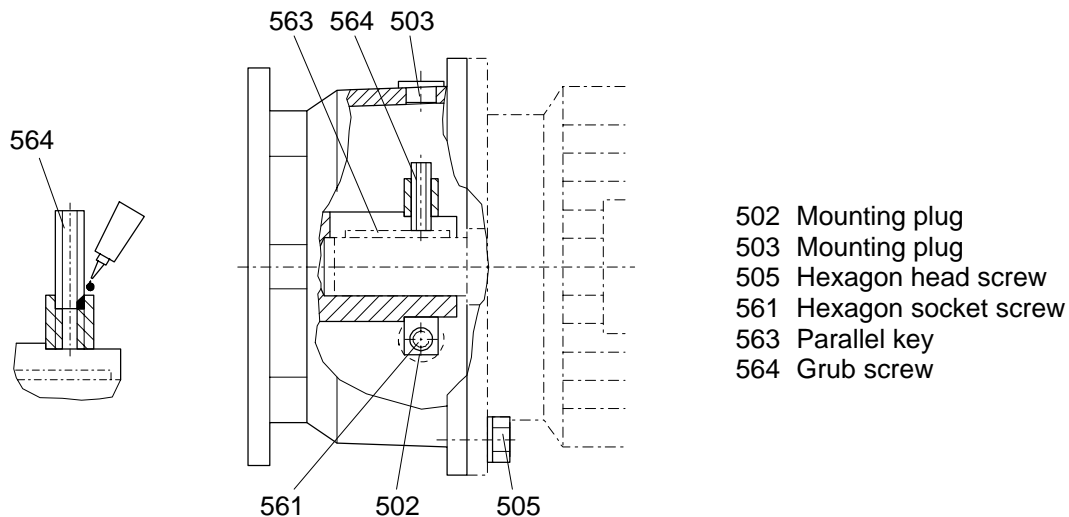

Figure 6.9.2
- Remove mounting plugs pos.502 and pos.503.
- To fasten the clamping ring align input shaft and clamping ring of the gear unit to the mounting bores pos.502 and pos.503 by rotating.
- Moisten grub screw pos.564 by adhesive compound (medium strength, e.g. Loctite 243) see Fig. 6.9.2.
- Flange motor to coupling lantern and fasten it by means of screws pos.505 according to the prescribed torque, see table 10.2.5.